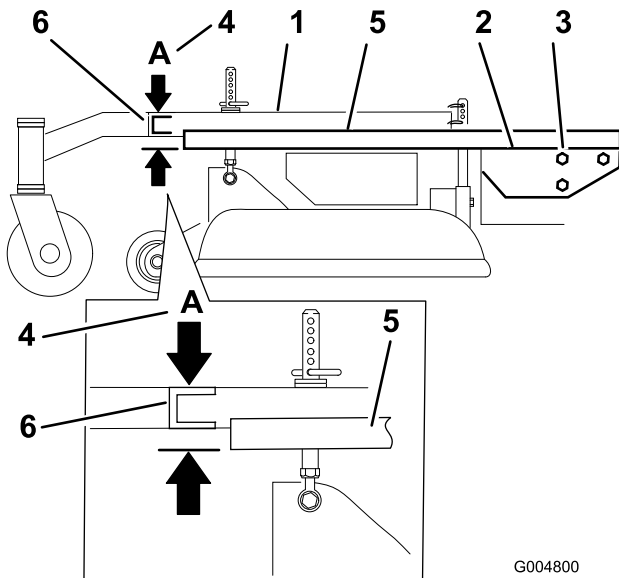

Figure 67
3. Place a long straight edge on top of the engine deck as shown in Figure 67.
4. At the carrier frame cross channel, measure the height at location **A** (Figure 67). This measurement must be 33 mm (1-5/16 inches), plus or minus 6 mm (1/4 inch).
6. Loosen the carrier frame mounting bolts on both sides of the machine (Figure 67).
7. Align the carrier frame and engine deck to match 33 mm (1-5/16 inches), plus or minus 6 mm (1/4 inch) at location **A** (Figure 67).